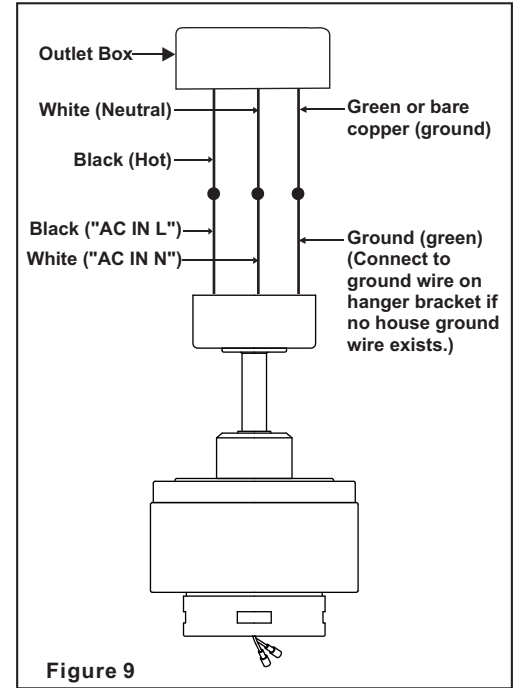

Figure 9
Step 1. Motor to House Supply Wires Electrical Connections: Connect the WHITE wire (Neutral) from the outlet box to the WHITE wire marked "AC in N" from the motor. (Fig. 9)
Step 2. Connect the BLACK wire (Hot) from the outlet box to the BLACK wire marked "AC in L" from the motor. (Fig. 9)